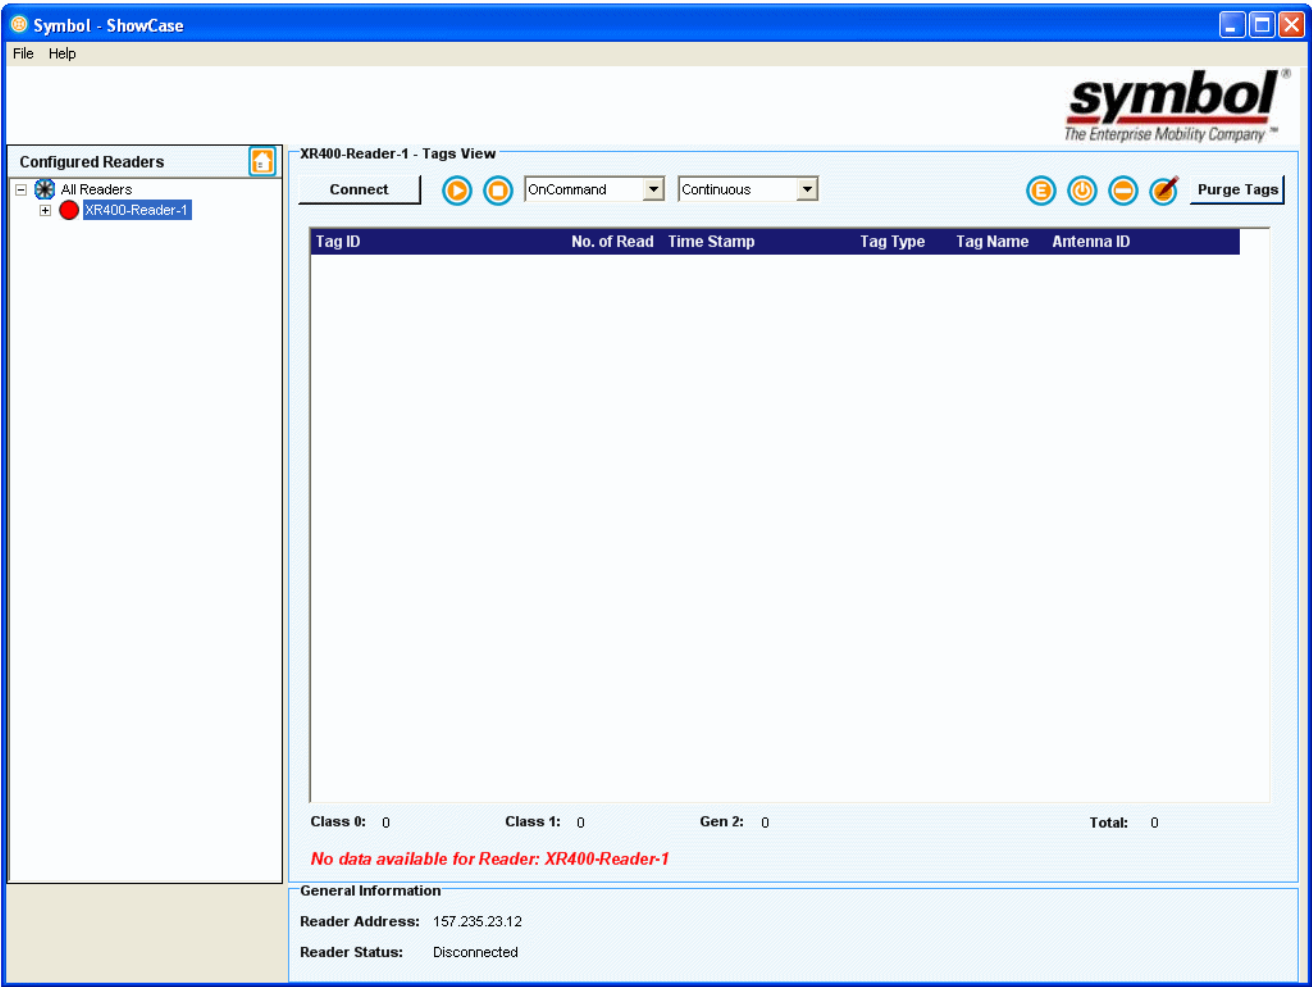

Figure 3-6. Configured Reader Screen
1. From the *ShowCase Console View* click *Readers*, the *Configured Readers* window appears (see Figure 3-6 on page 3-12).